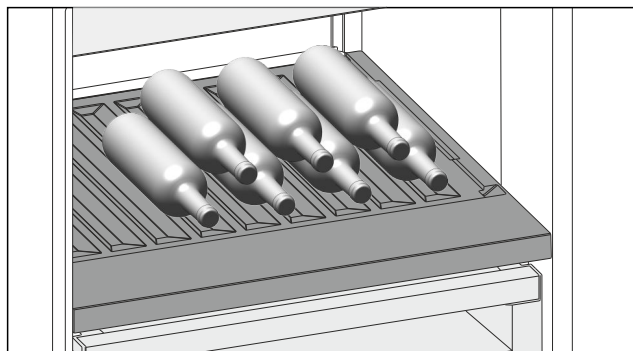

Fig. 222 Example illustration
- Place bottles in the back row with their bases against the back wall. (see Fig. 222)